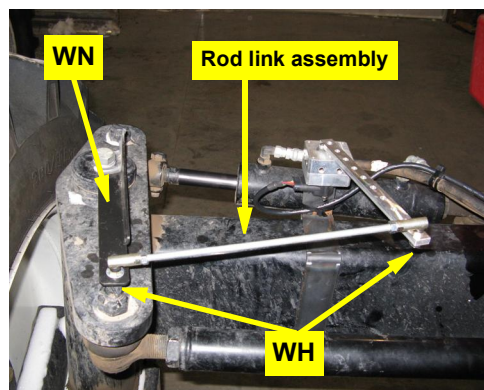

Figure 2d: Installed WAS rod link bracket. (You will connect the WAS cable at step 2d in the ECU installation section.)
- d. Using hardware **WH** install the assembled WAS rod link from step 1 between the last hole in WAS arm **WC** and bracket **WN**. Set the swivel studs downward at both ends (Figure 2d). Leave swivel nuts **WH** loose.